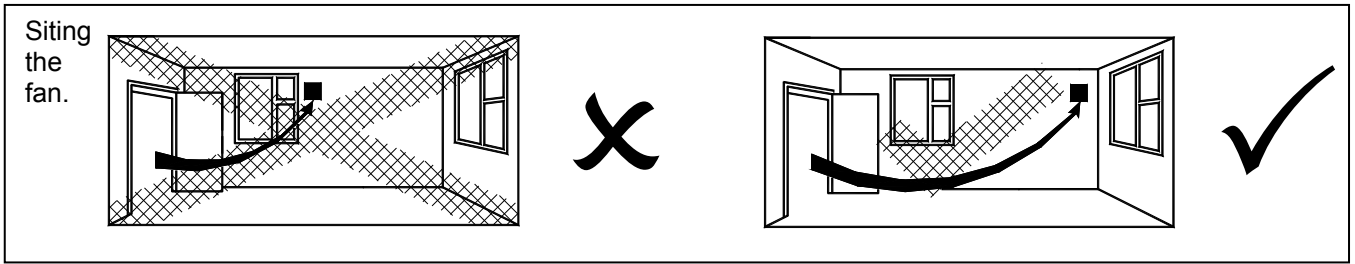

Fig.1 Continuous trickle (6l/s or 8l/s) with no boost facility. (The fan is internally fused)
1. Select and follow the appropriate wiring diagram. (Fig. 1, 2 or 3)